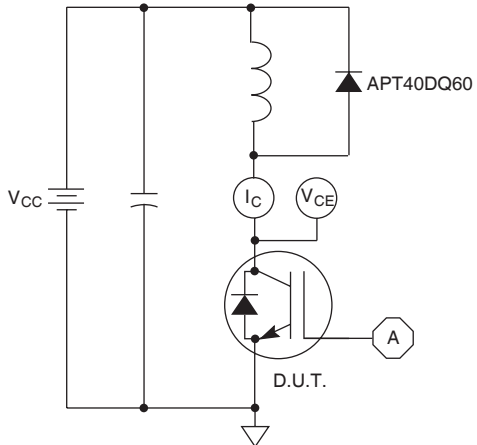

Figure 21, Inductive Switching Test Circuit
- ⑤  $E_{on2}$  is the clamped inductive turn-on energy that includes a commutating diode reverse recovery current in the IGBT turn-on switching loss. (See Figures 21, 22.)
- ⑥  $E_{off}$  is the clamped inductive turn-off energy measured in accordance with JEDEC standard JESD24-1. (See Figures 21, 23.)
- ⑦ Continuous current limited by package lead temperature.